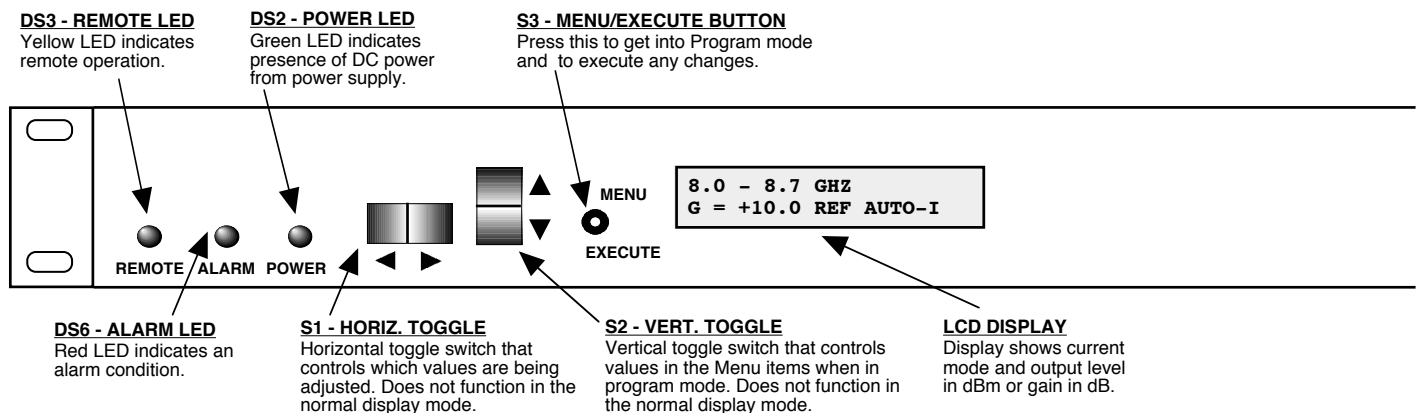

FIGURE 2.2 3116-80 Front Panel Controls and Indicators
Figure 2.2 shows the front panel controls and indicators.
5. Be sure DS2 (green, DC Power) is on and DS6 (red, Alarm) is off (Figure 2.2).
Alarm indications appear on the LEDs (see Figure 2.2).